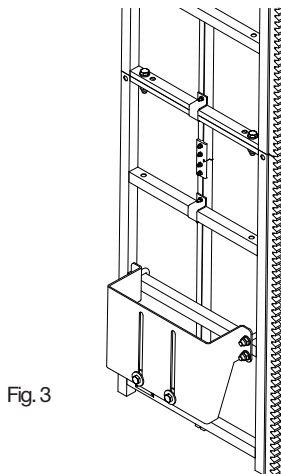

Fig. 3
3. Install the rest platforms approximately every 9 m (see Fig. 3 and installation drawing).